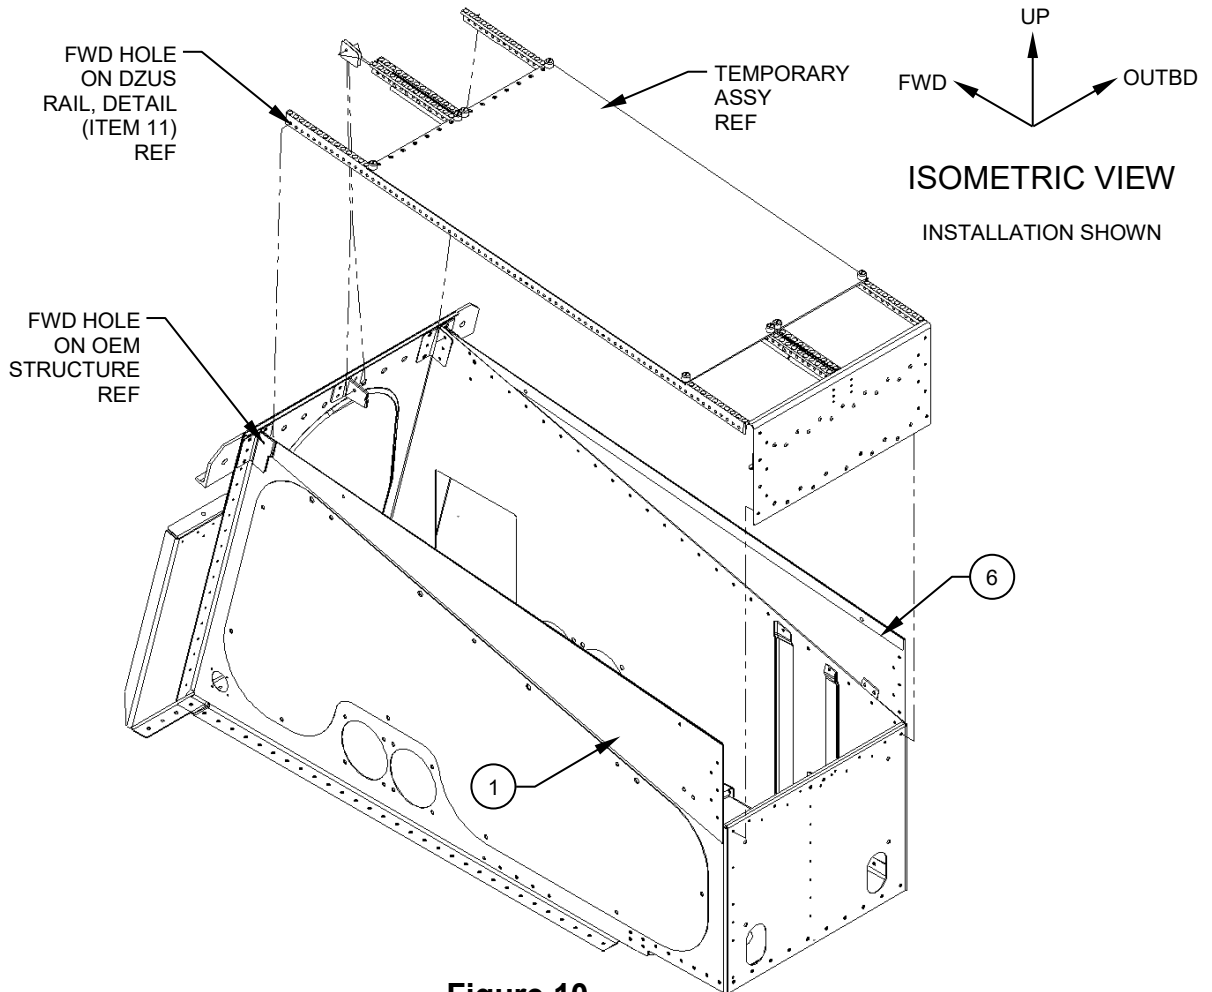

Figure 10
- 2.9. Install this temporary assembly with cleco's between the LHS & RHS Angle, Assy's, (Items 1 & 6). Adjust the position in station until the FWD holes on the Dzus Rail, Details, (Items 11), line up with the FWD hole on the OEM structure. See Figure 10.
- 2.10. Transfer & drill for 2x Rivet, Solid, Universal Head, (Item 31). **Note:** The rivet pattern for the top edge, is every fourth hole, except for the aft most rivet, which is a five-hole spacing. Temporarily install cleco's in these two positions. See Figure 10.
3.2. Detach the Temporary assy from the LHS/RHS Dzus Rail, Detail, (Item 11), remove and retain the components of the temporary assy. See figures 10 & 15.